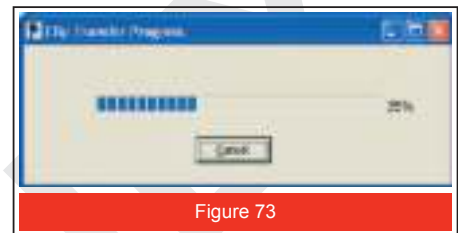

Figure 73
- As Figure 73 shows, a progress bar will be displayed. Click the Cancel button if you want to stop the transfer process.